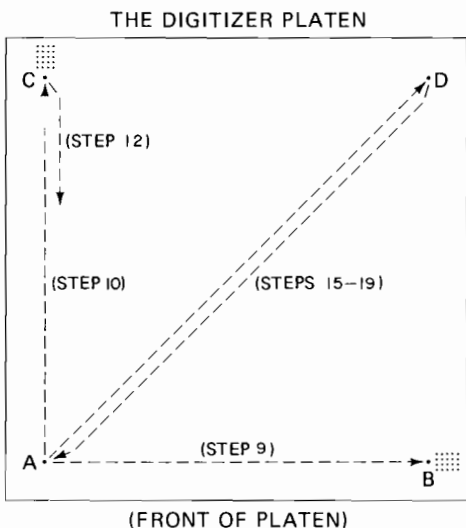

Figure 3
- Place the cursor over point A (see Figure 3) such that the cross-hairs are positioned exactly over the black dot. While being careful not to move the cursor, press \square . The red sample light on the cursor should light if it was off.